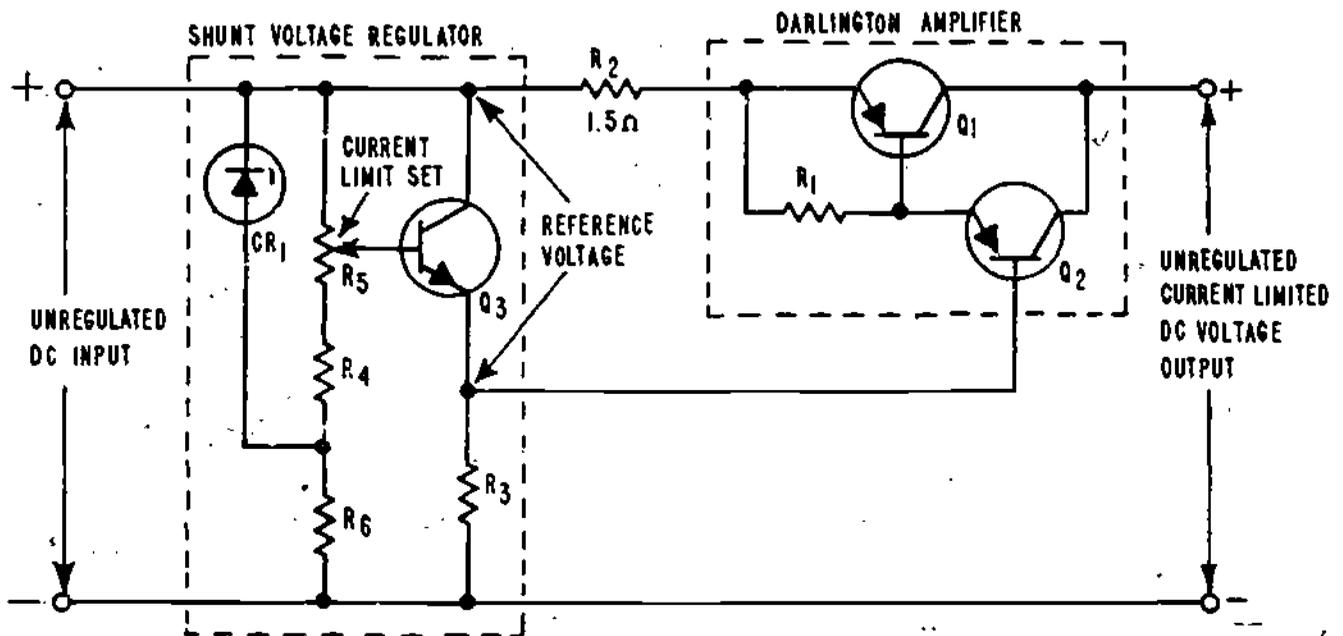

FIGURE 32
41. Refer to Figure 32. Notice the Darlington amplifier enclosed by the dotted lines on the right hand side of the figure and recall that the output of a Darlington type amplifier is the product of the gain of each of the transistors. For a review of this concept and a more detailed explanation, refer to frames 31 through 33 of this lesson.